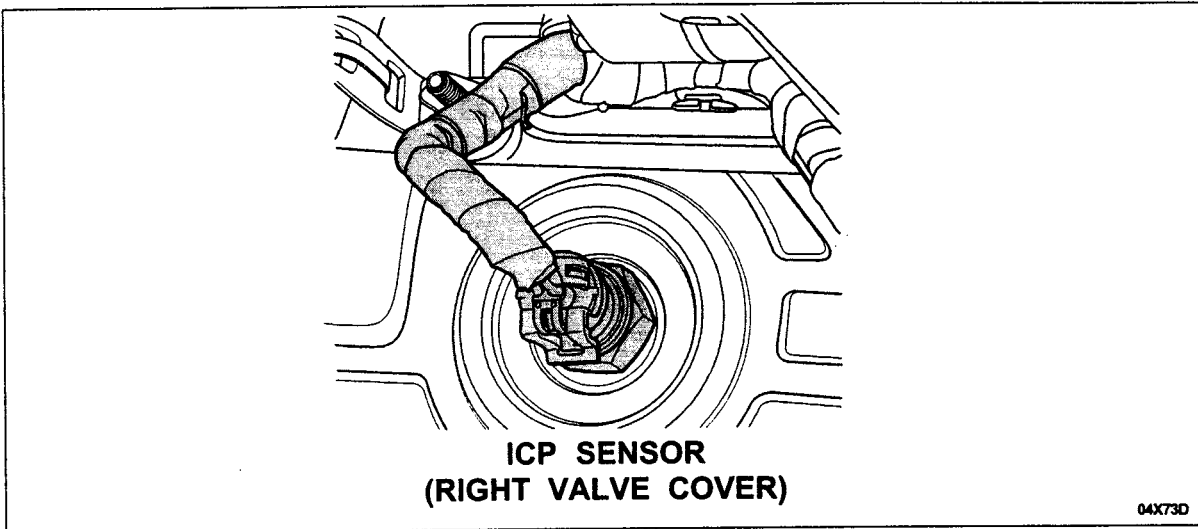

FIGURE 4
1. Disconnect the ICP sensor. See Figure 4.